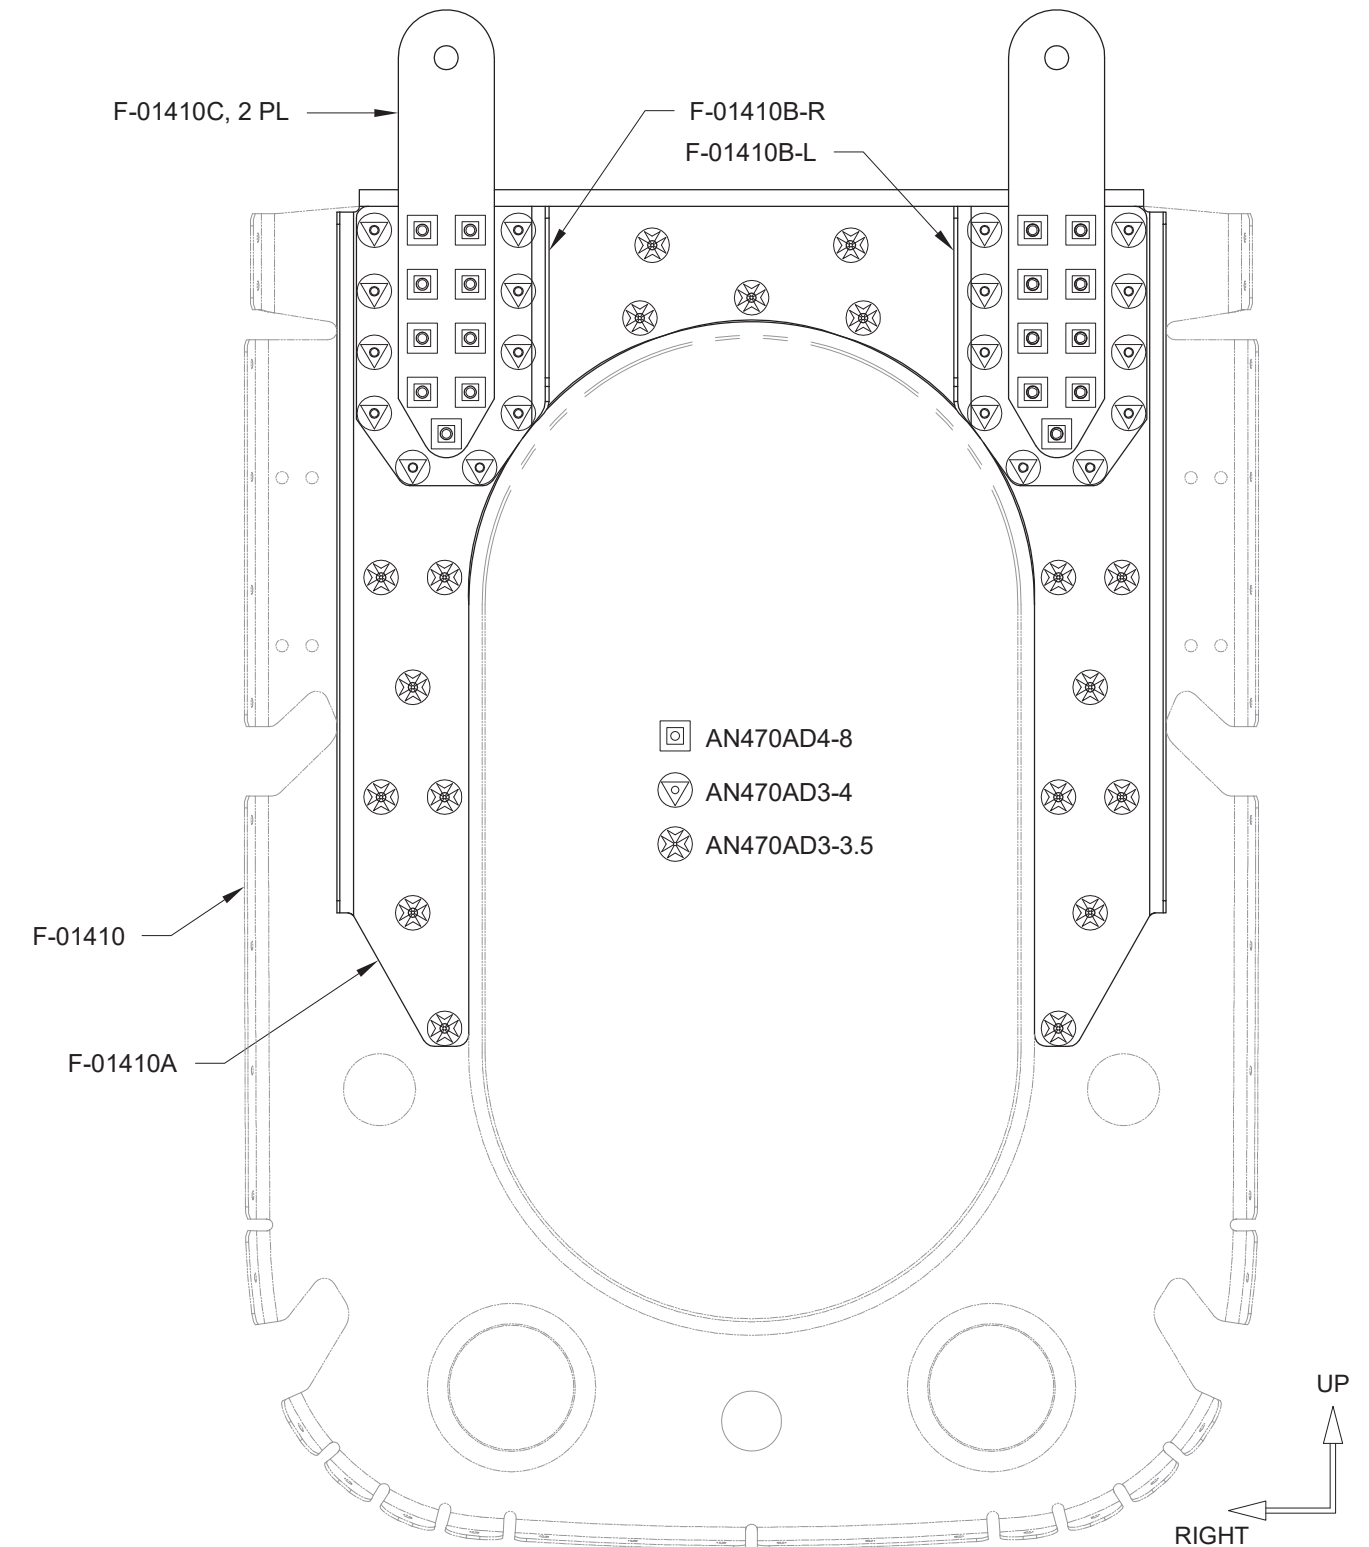

FIGURE 2: F-01410 BULKHEAD RIVETS
Step 7: Cleco then rivet the F-01410C Horizontal Stab Attach Bar, F-01410A and F-01410B Bulkhead Doublers to the F-01410 Bulkhead as shown in Figure 2.
Step 1: Dimple the #40 holes in the flanges of the F-01407-L & -R and F-01408-L-1 & -R-1 Side Frames to accept a dimpled skin, except as noted in Figure 1 and Figure 2.
Step 2: Modify the bottom of the F-01408-R-1 as shown in the detail view of Figure 2. Use a step drill to enlarge the indicated hole to 5/8 [15.9 mm], then trim as shown.